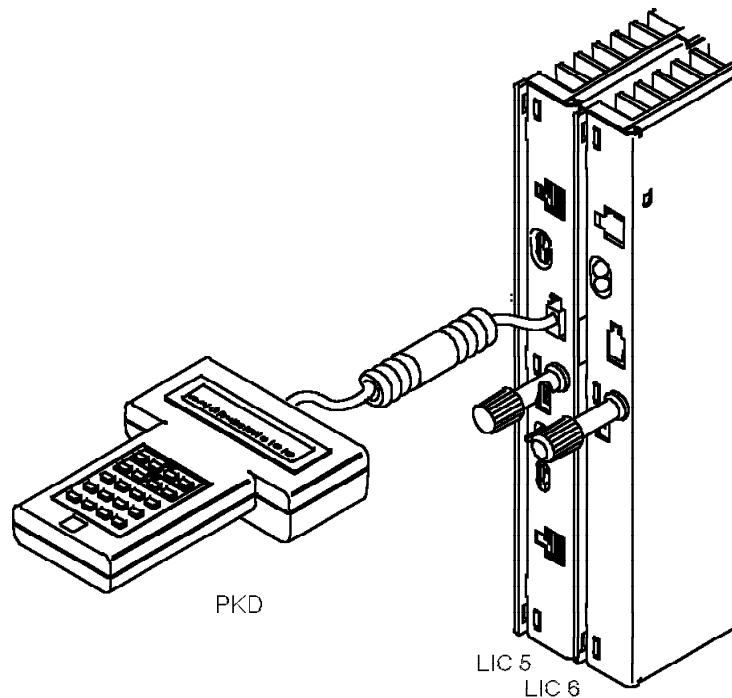

Figure 9-4. IBM 5869 Portable Keypad Display (PKD) plugged to a LIC5 or a LIC6.
- To check the lights, plug the PKD in (refer to Figure 9-4 on page 9-48 for connection); press the **Go** or **Stop** key; then the green and yellow lights should be on.